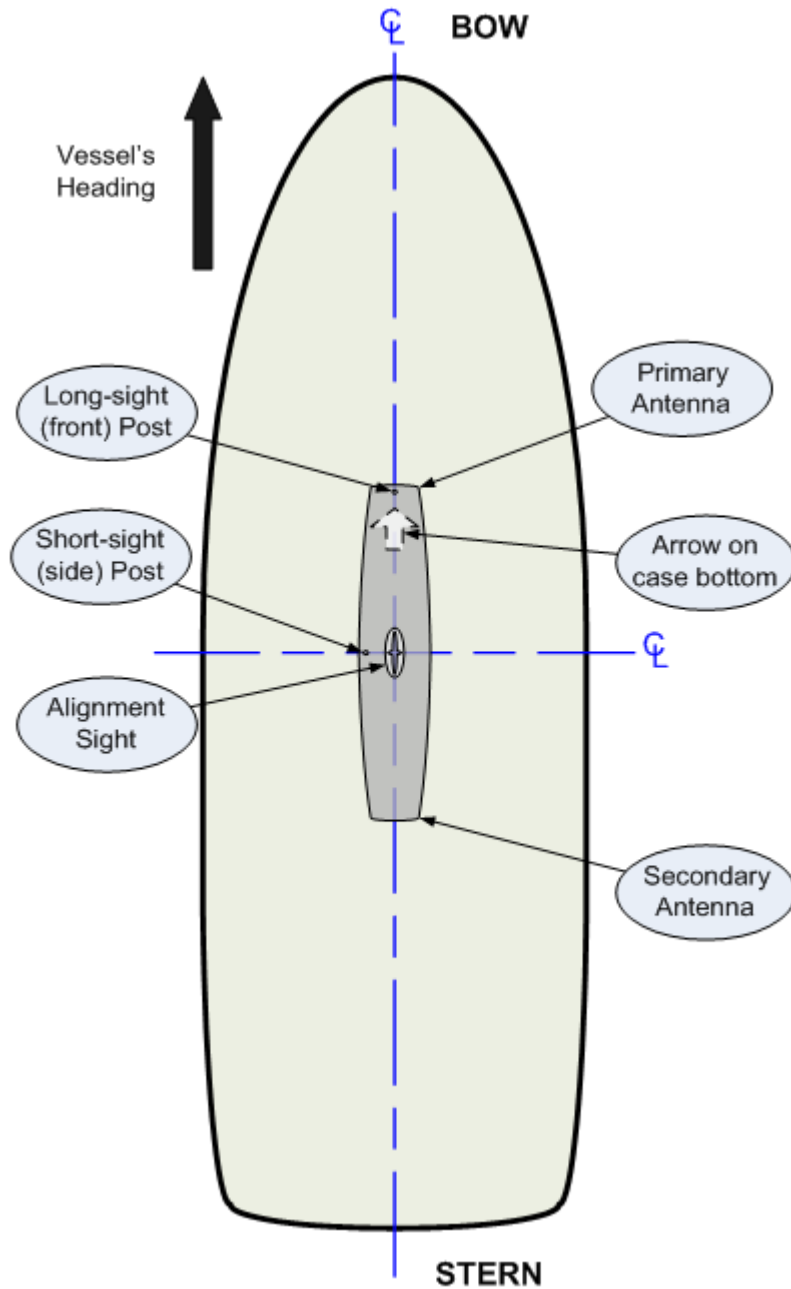
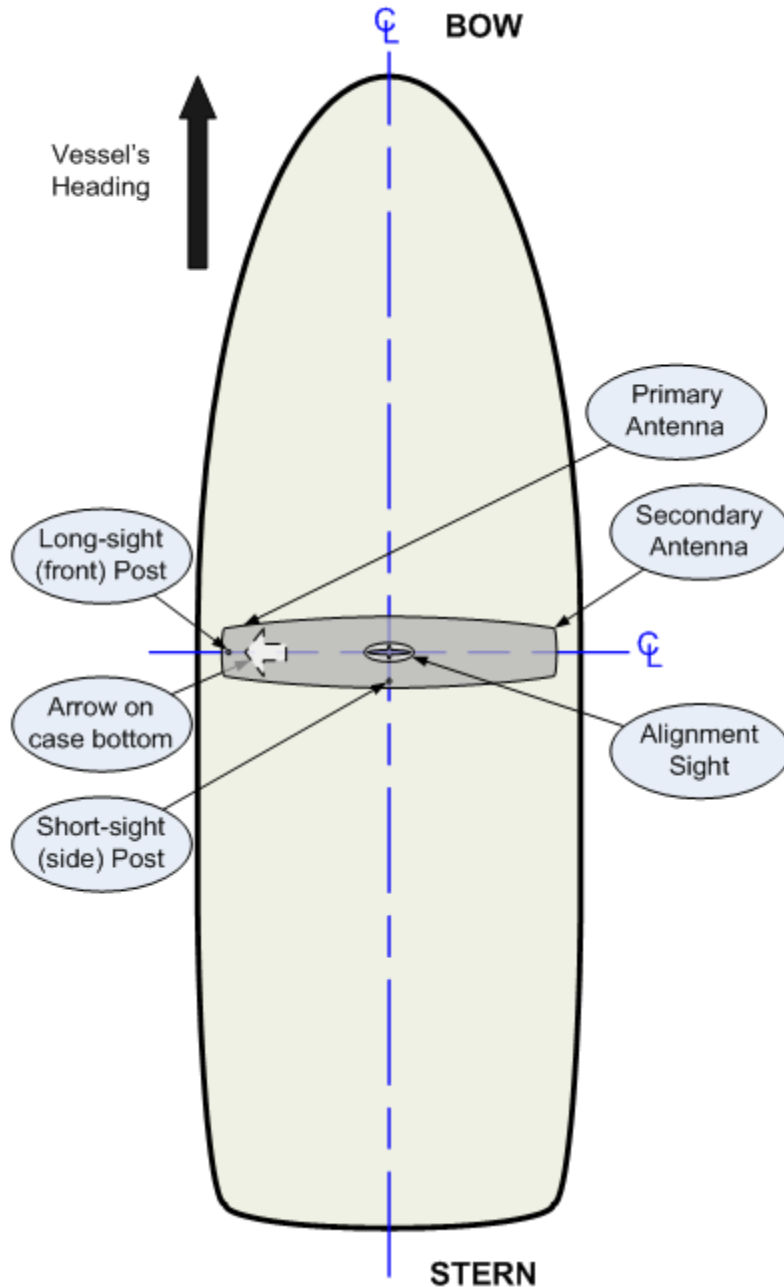
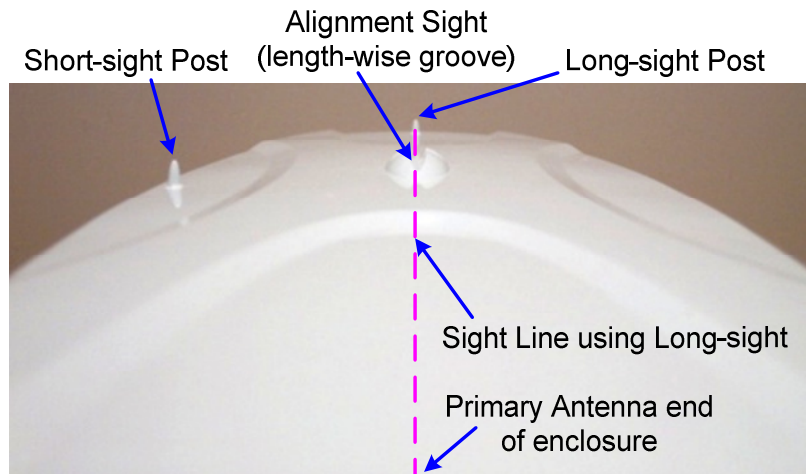

Figure 3 – Heading & Pitch Installation (viewed from above). Heading bias is 0° at this orientation
Figure 4 – Heading & Roll Installation (viewed from above). Heading bias is 90° at this orientation
Figure 11 – Long-sight Alignment
- ⇒ The G1 computes its position as the geographic location of its internal Primary GNSS antenna; that antenna is in the end of the enclosure opposite the end which has a recessed arrow on the underside & the long-sight alignment post on the top-side (see Figure 4 & Figure 11). Thus, you should mount the G1 so that the Primary antenna's end is at the location on the vessel where you desire the vessel's "reported GNSS position" to be.
The heading from a GPS mounted as in Figure 4 and that from a GPS mounted as in Figure 3 have 90° difference. This can be compensated by the parameter of heading bias. Heading bias value is adjusted through proprietary sentence. At factory default, G1
antenna's heading bias is set to 0°, allowing the mounting as shown in Figure 3. If you mount the antenna as in Figure 4, you need to set the heading bias to 90°.
- centre the other end’s post (the Long-sight shown in Figure 4, Figure 3 and Figure 11) in the length-wise groove in the Alignment sight